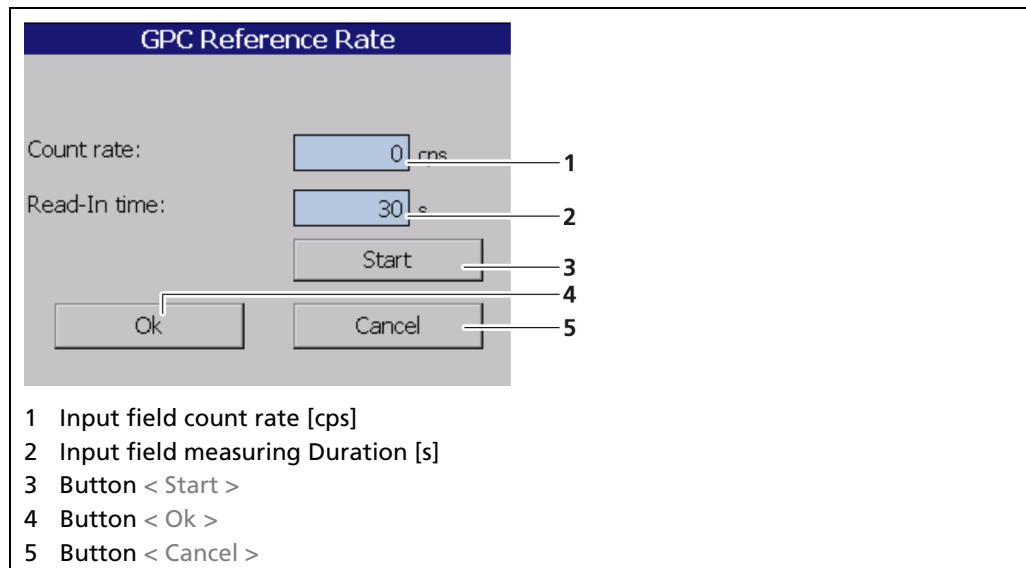

Fig. 94 GPC Calibration: Reference Count Rate
- ▶ A new window "GPC reference rate" opens (Fig. 94).
2. Click on the "Read-In-Time" field (Fig. 94, item 2) and specify the duration of measurement in seconds. The higher you set the measurement time, the more accurate the result.